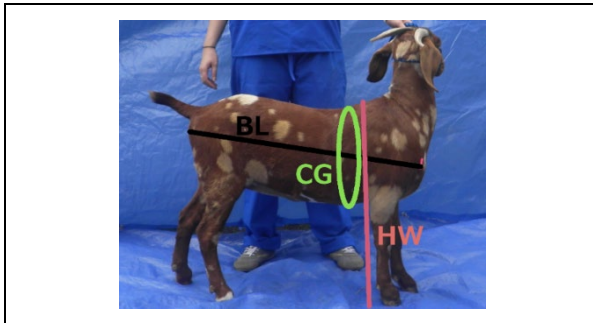

Figure 10. Chest girth (CG), height (HW), length (BL).
5. PHYSICAL BODY MEASUREMENTS (Figure 10.) Size: IF you wish to compare and validate the digital measures, record manual (traditional) body measures as follows of:
- Chest (Heart) girth (CG): (body circumference at the heart, just behind the elbows, just behind the withers). **Measure the tape when snug on the body; do not pull the tape tight.** NOTE: If you are using Caprine weigh tape, you may record BOTH circumference and weight; you MUST record circumference. This weight is a “tape weight.”
- Height (HW): front hoof to point of withers (top of shoulder blades)
- Length (BL): point of shoulder to pin bone (pins=point bones on either side of anus)